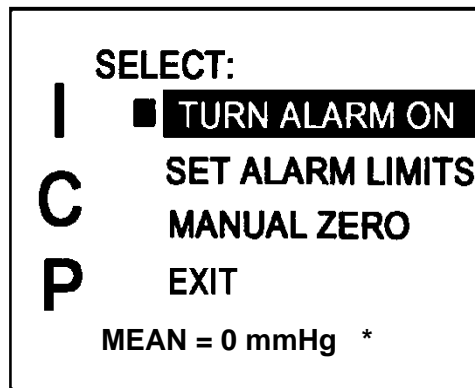

Figure 13
13.6.4 From the standard run mode screen, press the MENU/ENTER key to access the main menu. Verify that the display appears as shown in Figure 13.